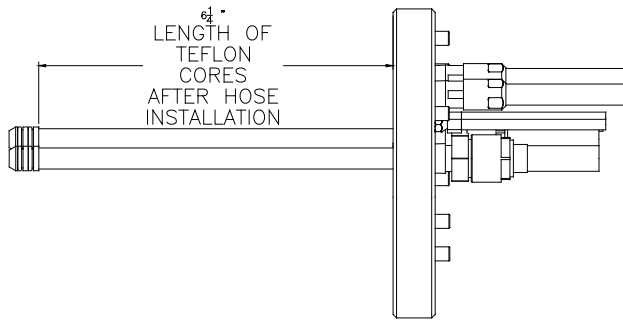

Figure 20: Assembled Hose Length
15. Insure the distance from the face of the robot plate to the end of the core is per Figure 20.